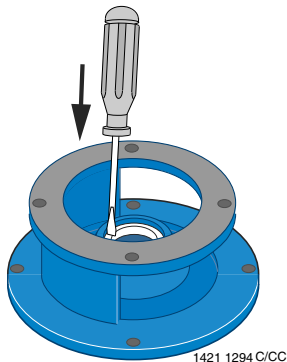

Figure 4
9. Place adapter/seal plate face down on bench and tap old stationary half of seal out of adapter/seal plate with a screwdriver and hammer (Figure 4).